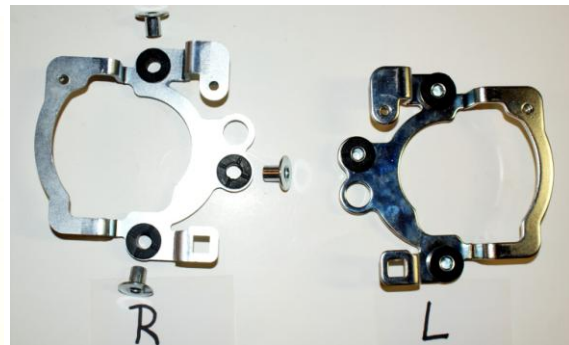

Figure 2
6. Install three large grommets in mounting bracket, Figure 2. Insert the long flange inserts into grommet from the rear.